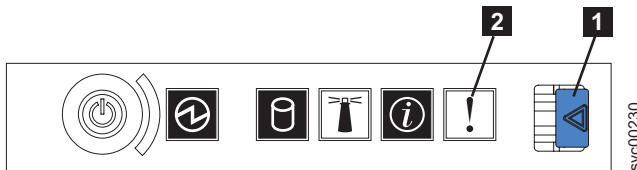

Figure 98. SAN Volume Controller 2145-8G4 operator-information panel
1. Is the Error LED, shown in Figure 98, on the SAN Volume Controller 2145-8G4 operator-information panel illuminated or flashing?